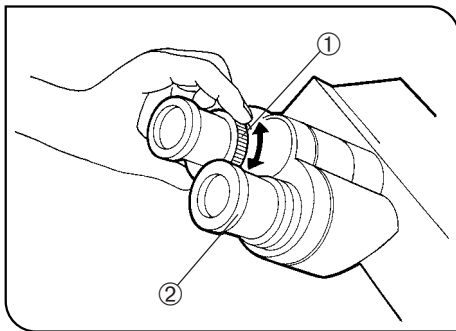

Fig. 16
### 2 Adjusting the Diopter (Figs. 16 & 17)
2. Looking through the eyepiece sleeve with the diopter adjustment ring ①, turn only the ring to focus on the specimen. (Fig. 16)
1. Looking through the right eyepiece with your right eye, turn the top of the eyepiece ② until a clearly defined double crosslines can be seen in the field of view. (Figs. 16 & 17)
3. Looking through the left eyepiece with your left eye, turn the diopter adjustment ring ① to focus on the specimen.